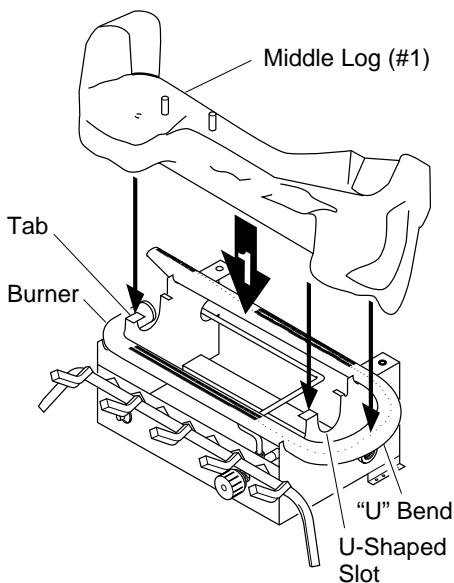

Figure 22 - Installing Middle Log (#1)
1. Place the base of the middle log (#1) in the U-shaped slots of the grate base. The cutout on the right of the middle log should sit over the burner (see Figure 22). Make sure the front of the middle log is resting on the tabs of the grate base and the cutout area is centered over the burner "U" bend.